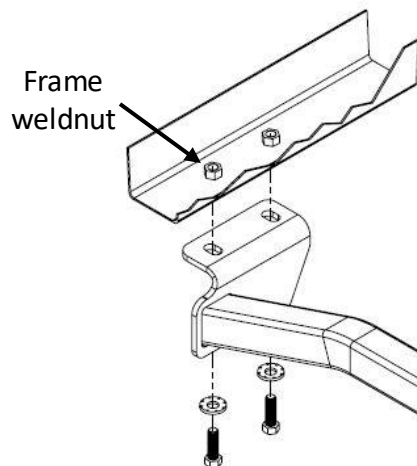

Figure 2
1. Use 17 mm socket to remove (2) bolts from tie down bracket on passenger side, see Figure 2. Return tie down bracket to vehicle owner.